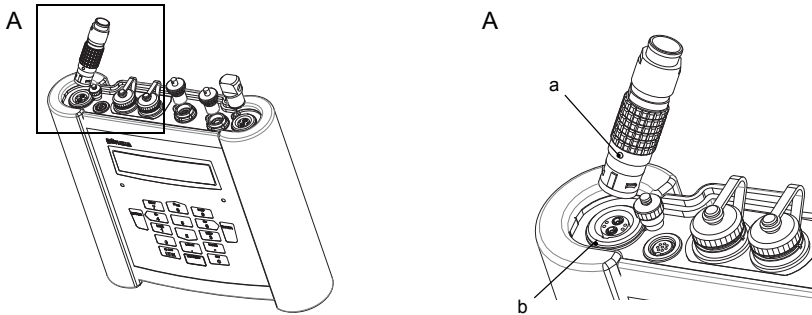

Fig. 7.7: Connection of the transducers (FLUXUS F608\*\*-A2)
- Insert the connector of the transducer cable into the socket of the transmitter. The red point (a) on the connector must align with the red marking (b) on the socket (see Fig. 7.7).